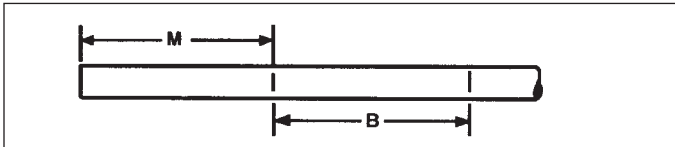

Figure 3
4. Mark off second bend measurement (B) on thinwall as illustrated in Figure 3.